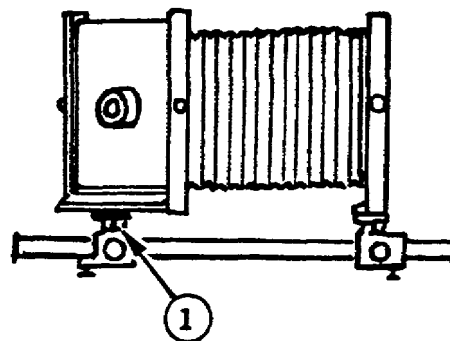

Figure 1-39. Front Slide Knob.
(d) Loosen the front slide and swing lock knob ①, (fig 1-39).